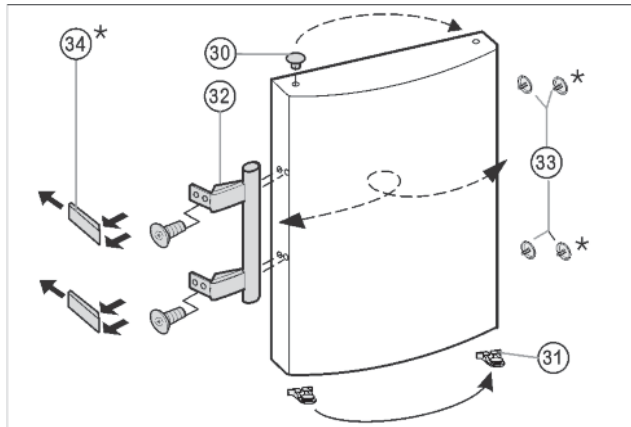

Fig. 9
- ▶ Pull the *Fig. 9 (30)* plugs out of the door bearing bushes and move them to the other side.
- ▶ Remove the door handles *Fig. 9 (32)*, plugs *Fig. 9 (33)* and pressure plates\* *Fig. 9 (34)* and swap them over to the opposite side.